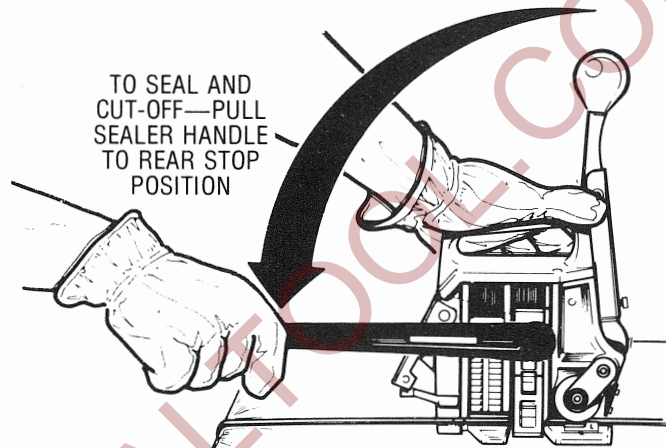

FIGURE NO. 5
5. After the desired tension is reached, complete the sealing and cutoff operation by pulling the SEALER HANDLE (KEY #76) to the rear stop position. (SEE FIGURE NO. 5.)